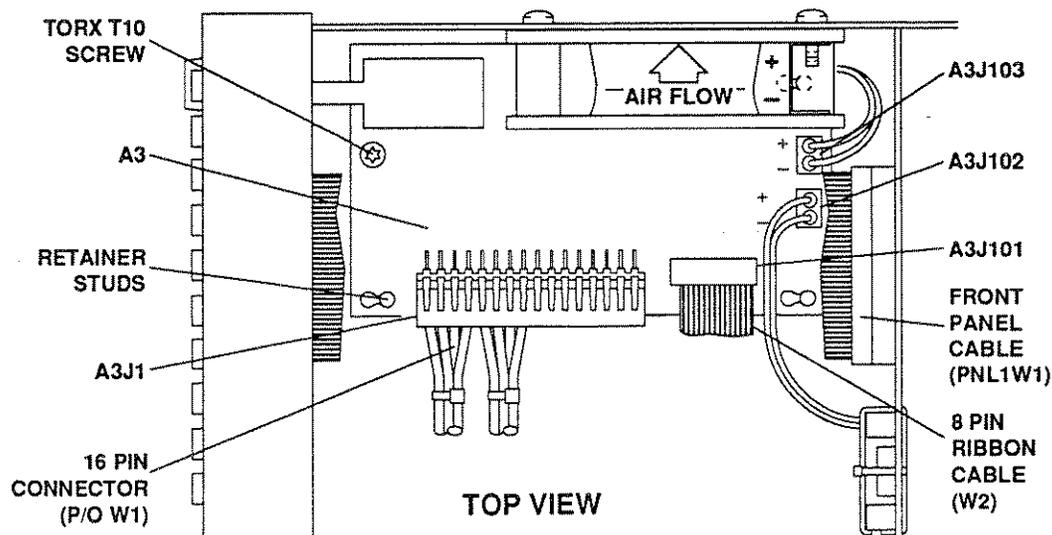

Figure 8-7. Remove and Replace A3 Power Supply Auxiliary PCA
3. Disconnect the following wires/cables (see Figure 8-7):